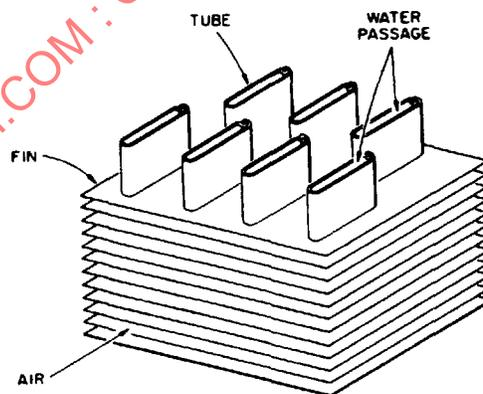

FIGURE 1—TUBE AND PLATE FIN CORE
3.1 **Tube and Plate Fin Core**—An assembly of fluid-carrying tubes of any cross-sectional form, the tubes being joined by heat-conducting fins or plates common to all tubes or groups of tubes. See Figure 1.